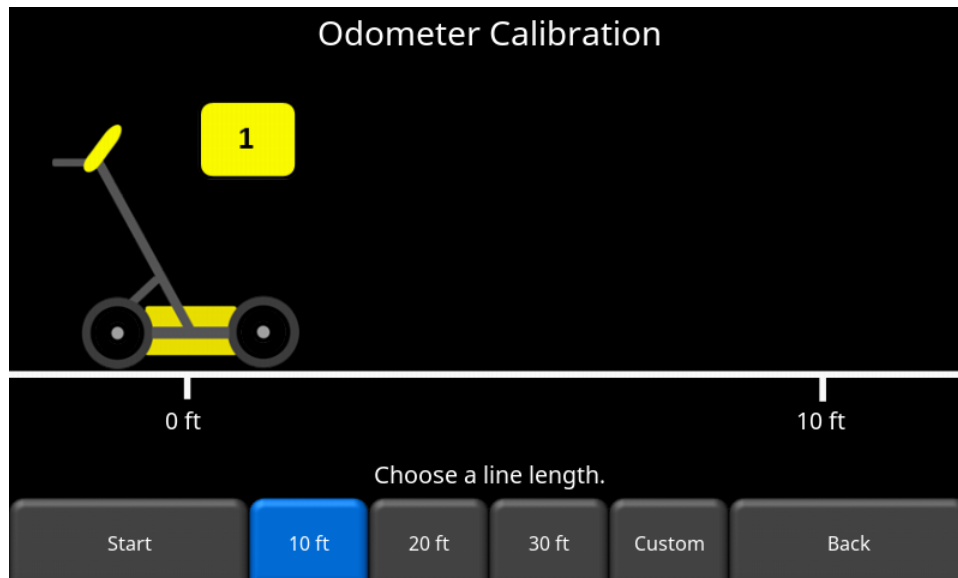

Figure 4-19: Odometer Calibration – select a distance and then press Start
- Odometer Calibration** - This option actually calibrates the odometer (Figure 4-19). Choose a set distance from the screen, or select Custom. Then press **Start** and move the system that exact distance, using a measuring tape or other known distance indicator. Press **Finish** when you have travelled that distance